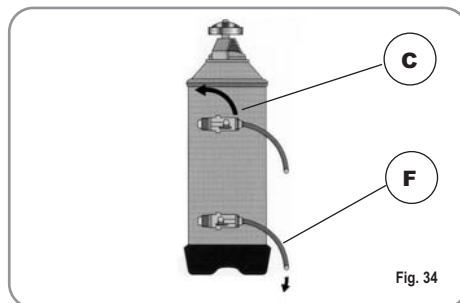

Fig. 34
- 2) Put the cap back on and reposition lever C moving it towards the left (Fig. 34) and allowing tube F to discharge the salty water until it has been eliminated and the water becomes fresh again (about half an hour).